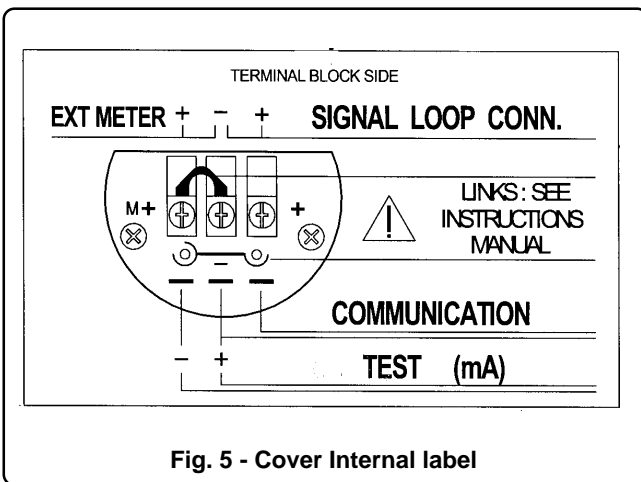

Fig. 5 - Cover Internal label
- 2) Remove the cover on the terminal block side; inside of which is affixed the label shown in Fig. 5.